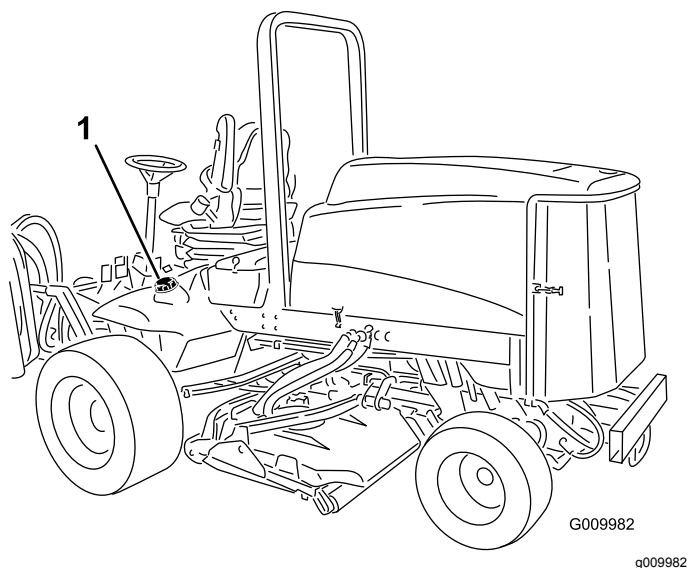

Figure 15
1. Remove the fuel tank cap (Figure 15).